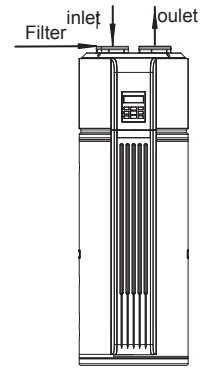

Fig. 3-8
- 5) Filter installing at the unit inlet. In terms of the unit with duct, filter in there must be put on the position of duct inlet. (Fig. 3-8/3-9)